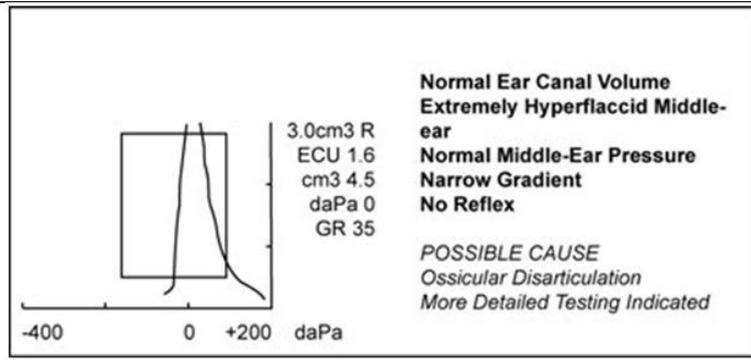

Figure 5: 226 Hz Abnormal Tympanogram
1. Carefully remove this wire from the metal tube (Figure 5). This will pull any cerumen out of the metal tube.